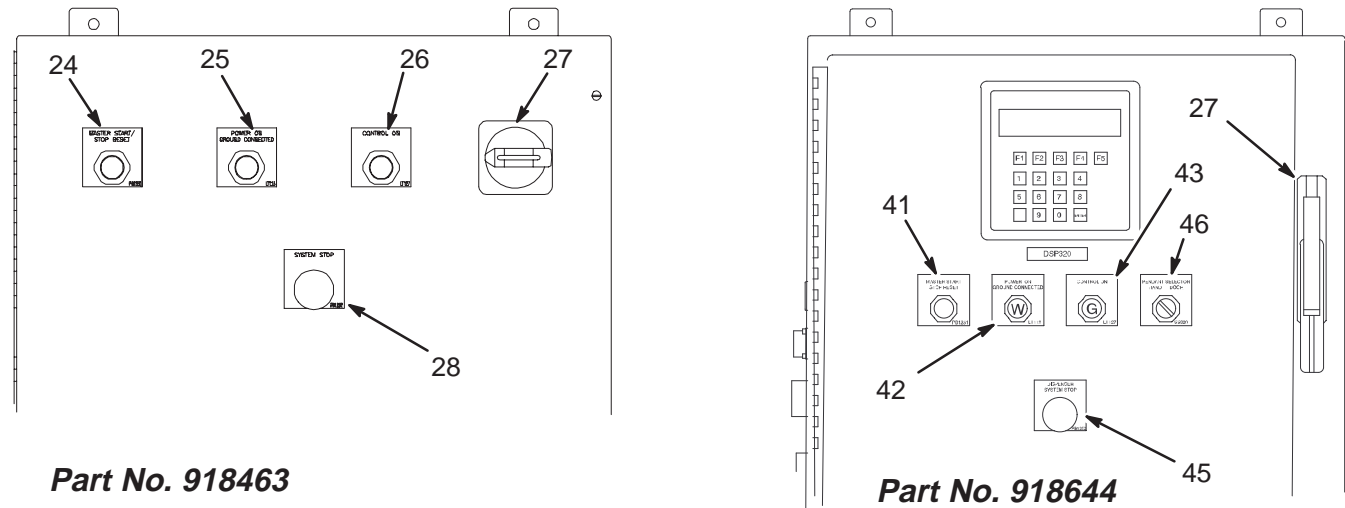

Fig. 30
To start the module, you (Fig. 30):
2. Press MASTER START/STOP RESET, (24) in Fig. 30, on the control assembly.
Use the tables below and Fig. 30 to read the indicators on the PrecisionFlo control panel.
1. Make sure the CONTROL ON indicator, (26) in Fig. 30, is lit. If it is not, push the MASTER START button (24) to turn on power to the PrecisionFlo metering valve drive circuitry.